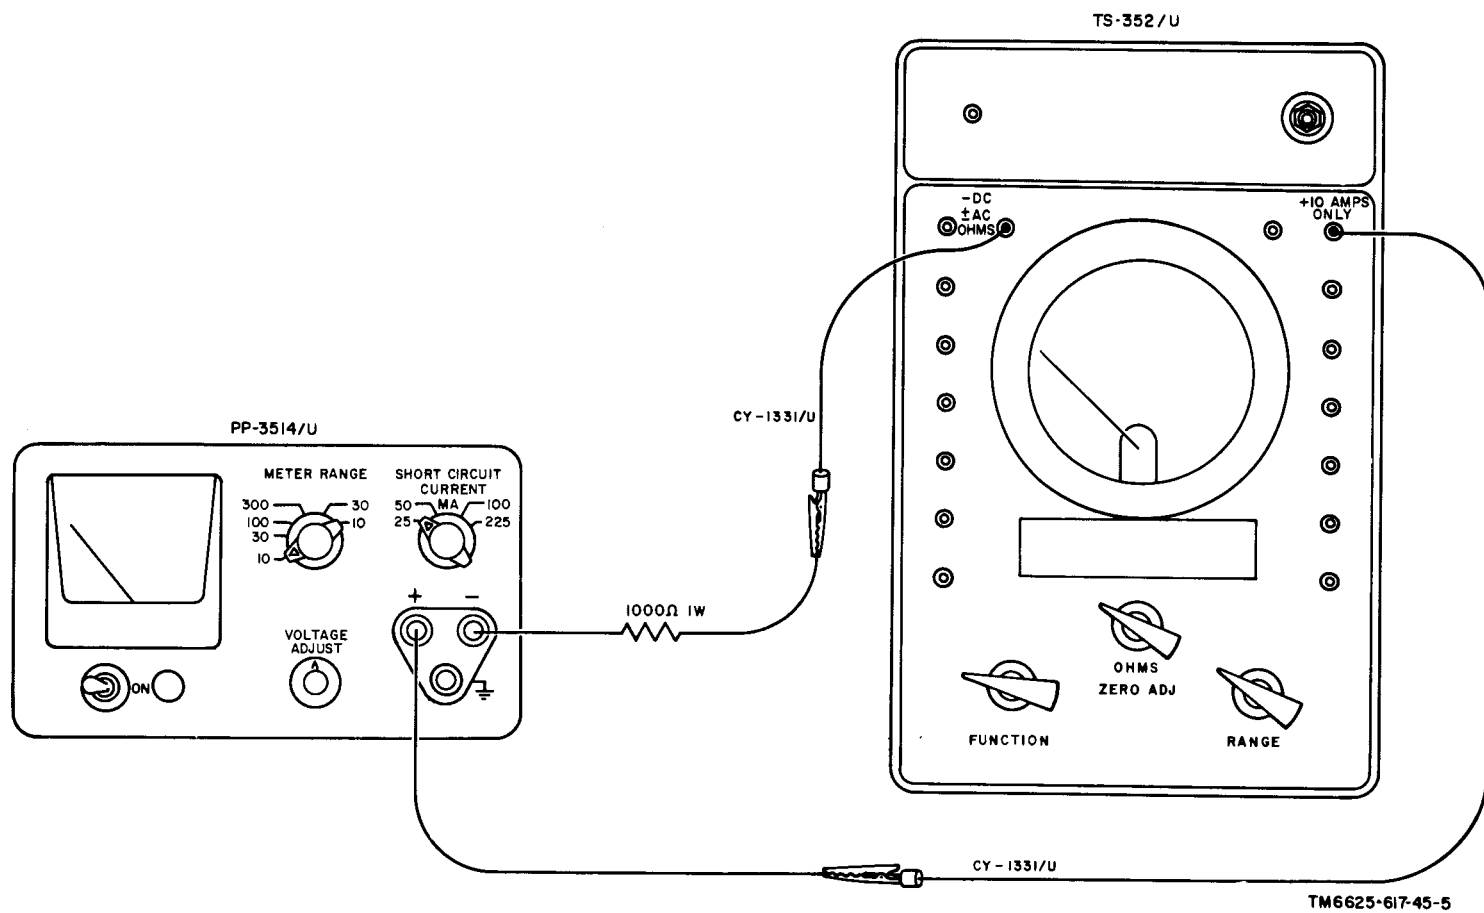

Figure 4-2. Meter calibration test connections.
- (1) Remove the PP-3514/U from the case.
- (2) Connect the PP-3514/U to Multimeter TS-352/U and 1,000 ohms in series (fig. 4-2).
- (3) Set METER RANGE switch S3 to 10 MA and rotate the VOLTAGE ADJUST control fully counterclockwise.
- (4) Set the power switch to ON.
- (5) Adjust the VOLTAGE ADJUST con-
(1) Multimeter TS-352/U.
(2) 1,000 ohm resistor.
b. Test Connections and Conditions. Connect the equipment as shown in figure 4-2.